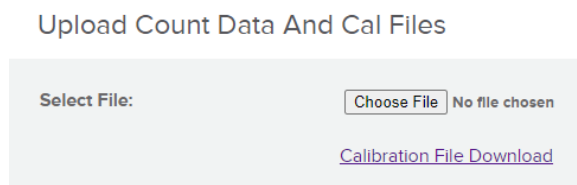

Figure 11: Upload Count Data and Cal Files window
1. In the GeoMx DSP Control Center, click on **Data Collection** then **Upload Counts/Cal Files**. The **Upload Count Data and Cal Files** window opens (see Figure 11).